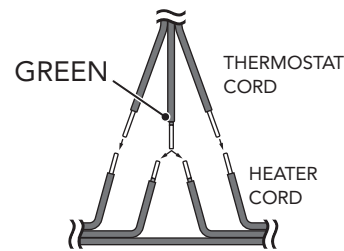

Figure 10. Heater and remote thermostat wiring schematic.
4. Using appropriately rated connectors, splice the wires together. Wrap splice with electrical tape to protect the splice and reduce strain. See Fig. 10.